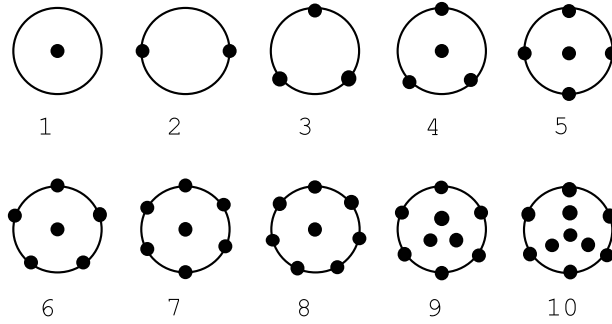

Figure 3.13: Predefined configurations for 1 through 10 sensor rays
- `numberOfRays`: number of rays cast by the sensor. The number of rays must be equal to, or greater than 1 for "infra-red" and "sonar" sensors. `numberOfRays` must be exactly 1 for "laser" sensors. If this number is larger than 1, then several rays are used and the sensor measurement value is computed from the weighted average of the individual rays' responses. By using multiple rays, a more accurate model of the physical infra-red or ultrasound sensor can be obtained. The sensor rays are distributed inside 3D-cones whose opening angles can be tuned through the `aperture` field. See figure 3.13 for the ray distributions from one to ten rays. The spacial distribution of the rays is as much as possible uniform and has a left/right symmetry. There is no upper limit on the number of rays; however, Webots' performance drops as the number of rays increases.